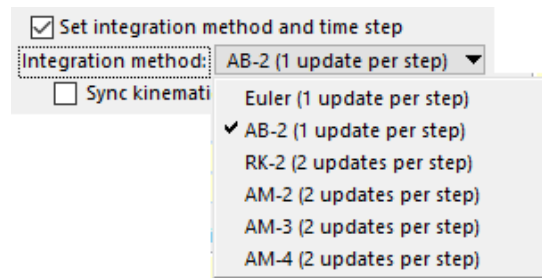

Figure 4. Drop-down control to set numerical integration method.
**Note** A handy trick to see the default method and time step from **Preferences** is to uncheck this box, refresh the screen (F5), then check it. The values shown for the controls ② - ④ are what will be used if the box is not checked. After seeing the information, use Undo (Ctrl+Z) as needed to restore the dataset to its original state.
- ② Drop-down list for selecting a numerical integration method (keyword = OPT\_INT\_METHOD). VS Math Models support six different methods for numerically integrating differential equations (Figure 4).